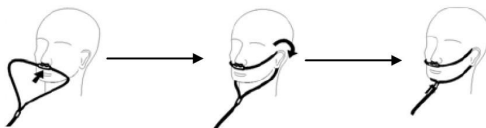

Figure 4.8: Placing the Nasal Sampling Line.
- 3). Attaching the nasal sampling line to patient, shown as figure 4.8: